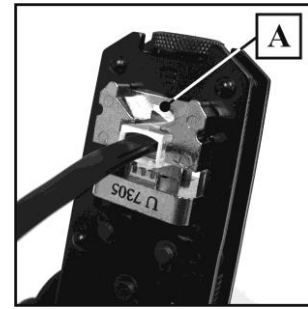

Fig.1.
After cable and modular plug have been prepared, open hand tool and insert modular plug assembly into the opening of the die set (as shown on Fig.1.) until plugs' locking tab (A) snaps into place. Check if modular plug is properly positioned in the die set and slowly close the tool completely until ratchet mechanism is released. Press locking tab (A) on the modular plug and remove crimped connection from the die set.